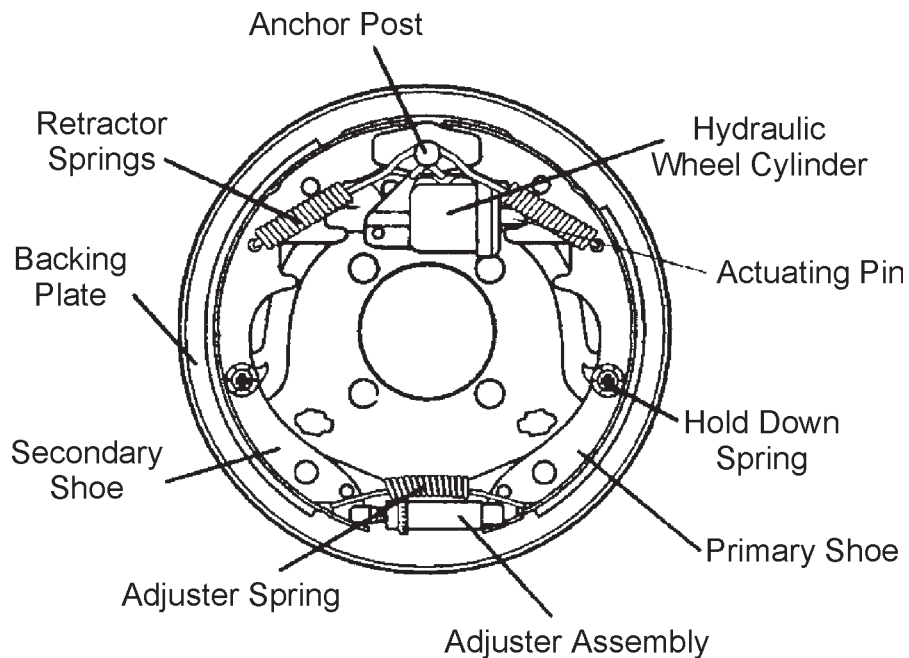

Figure 11. Hydraulic Brake Components
Figure 11 display's the major hydraulic brake components that will require inspection and maintenance. Please inspect these components as required using steps 1 through 7 Reference Table 10 for hydraulic brake troubleshooting guidelines.
2. Torque all lug nuts in sequence. See Figure 11. **DO NOT** torque the wheel lug nuts all the way down. Tighten each lug nut in 3 separate passes as defined by Table 7.